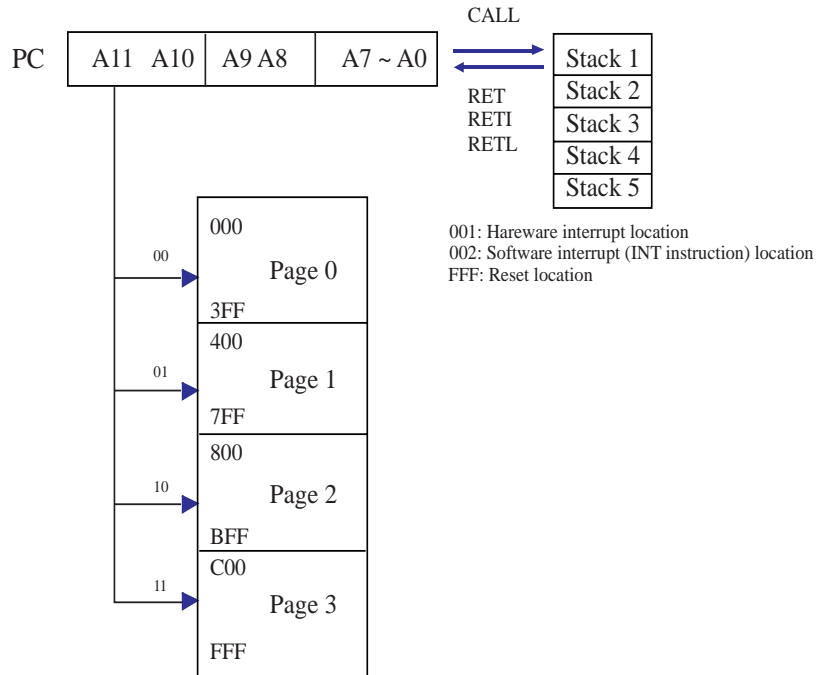

Fig. 3 Program counter organization
- Depending on the device type, R2 and hardware stacks are 12-bit wide. The structure is depicted in Fig. 3.